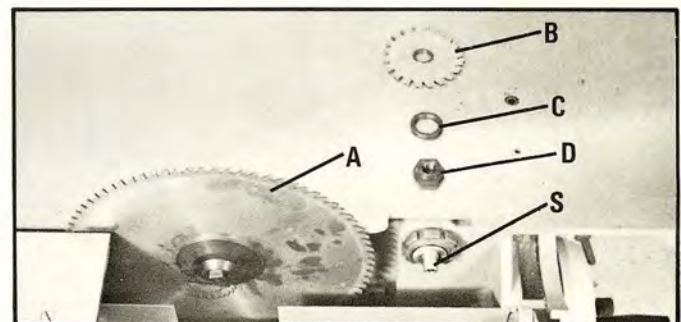

Fig. 25
2. Assemble scoring blade (B) Fig. 25, onto arbor (S). NOTE: Teeth of the scoring blade must point down towards the saw blade (A) Fig. 25. (Scoring blade not supplied with the machine.)
3. Assemble collar (C) Fig. 25, and nut (D) to arbor (S).